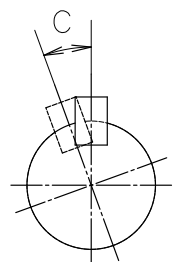

Fig.6 Input backlash
4. Inspect the unit regularly for general backlash and overall screw unit condition. Check for visible particles caused by wear of the screw unit. Check the backlash between the worm and worm gear. Backlash in excess of 30° indicates that the worm and worm gear need to be replaced (Angle C in Fig. 6). In general, continuous operation without lubrication at the recommended intervals may cause shaft inefficiency and failure of the traveling nut.